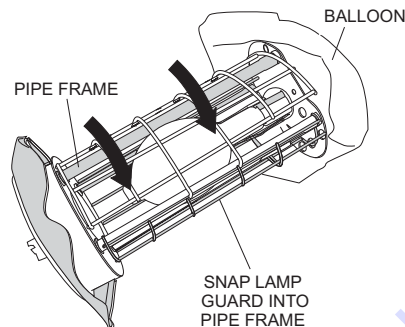

Figure 23. Installing the Lamp Guard
1. Reinstall the lamp guard (Figure 23). Be careful not to install the lamp guard in the wrong direction.